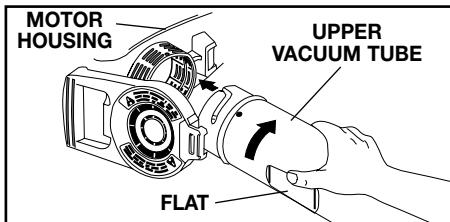

Fig. 7
2. Align the arrow on the upper vacuum tube with the arrow on the motor housing (Fig. 7). Note that the flat on the upper vacuum tube faces the vacuum door as you install the tube.
2. Remove the vacuum tubes by reversing the instructions on page 8 (Figs. 7, 8 and 9). The vacuum bag can also be removed by referring to pages 8 and 9 of the Operator's Manual.